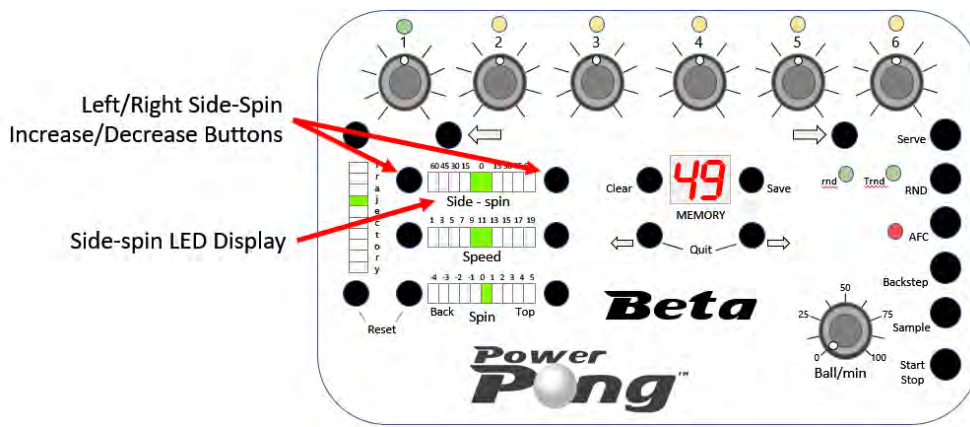

Figure 3-4
3.2.4 Ball Side-spin Buttons / LED Display (Figure 3-4)